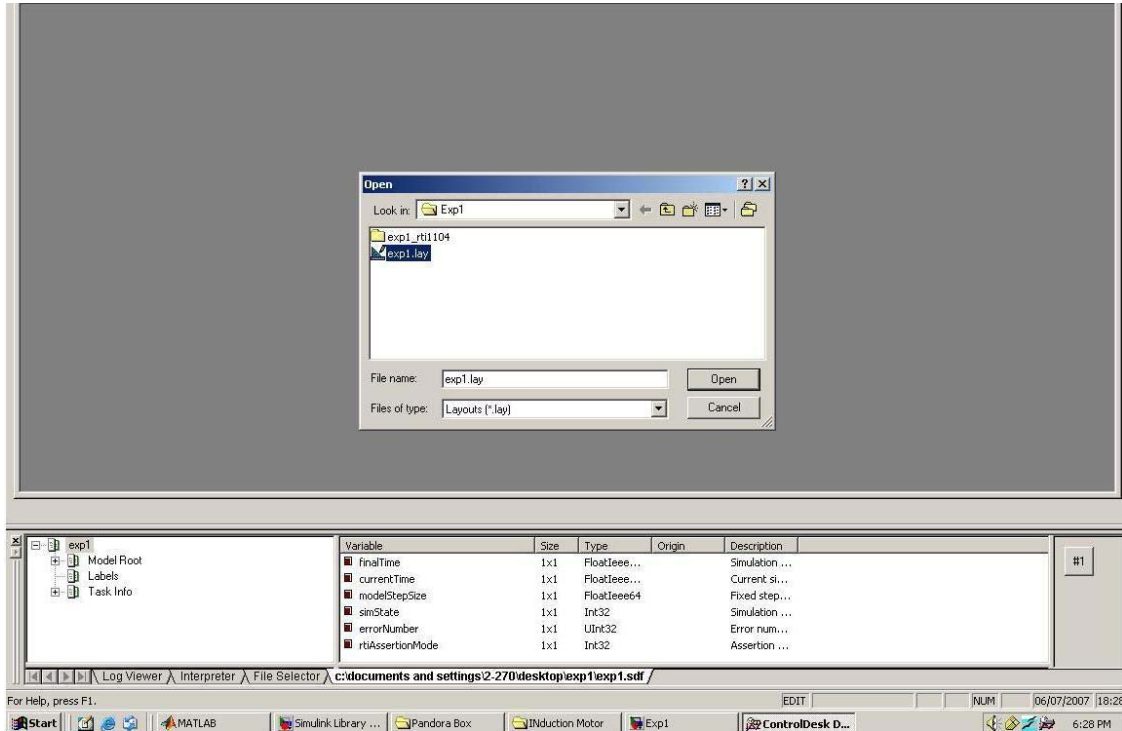
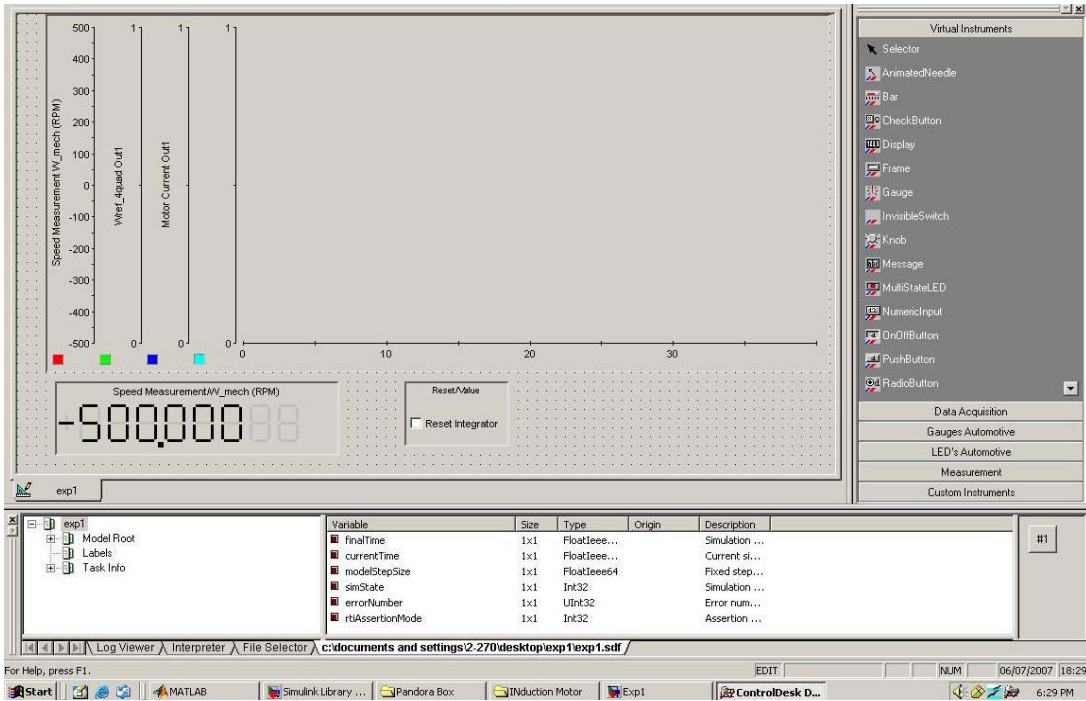
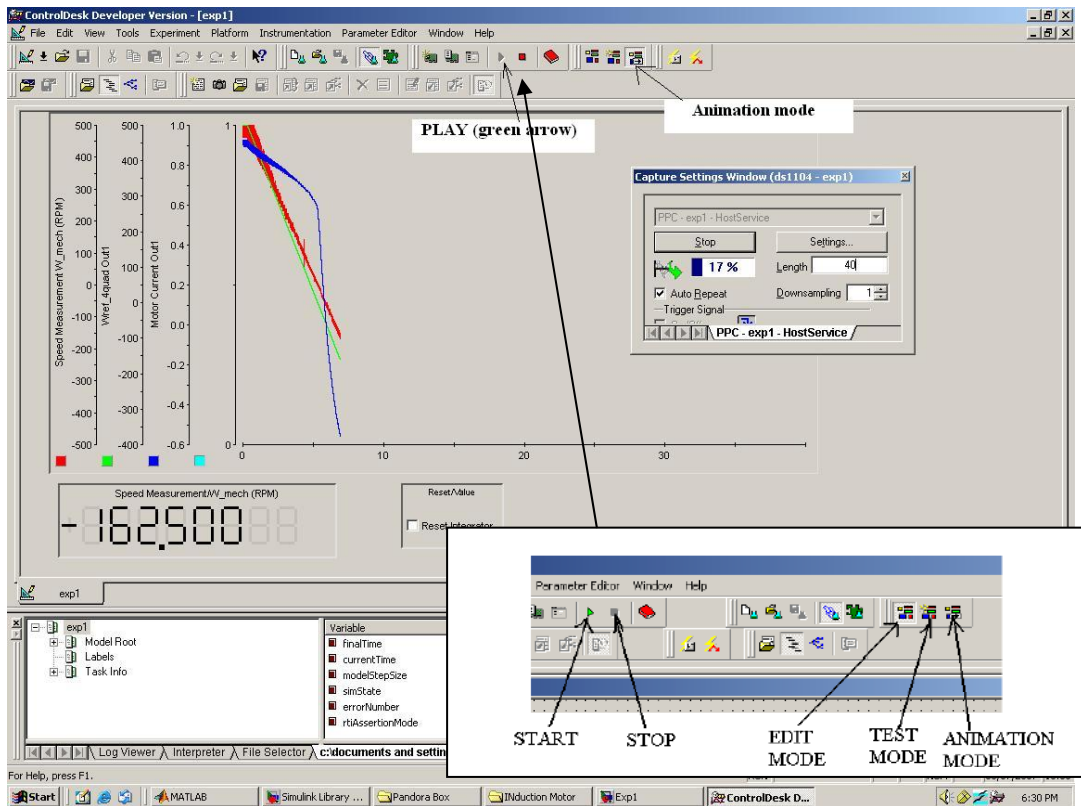
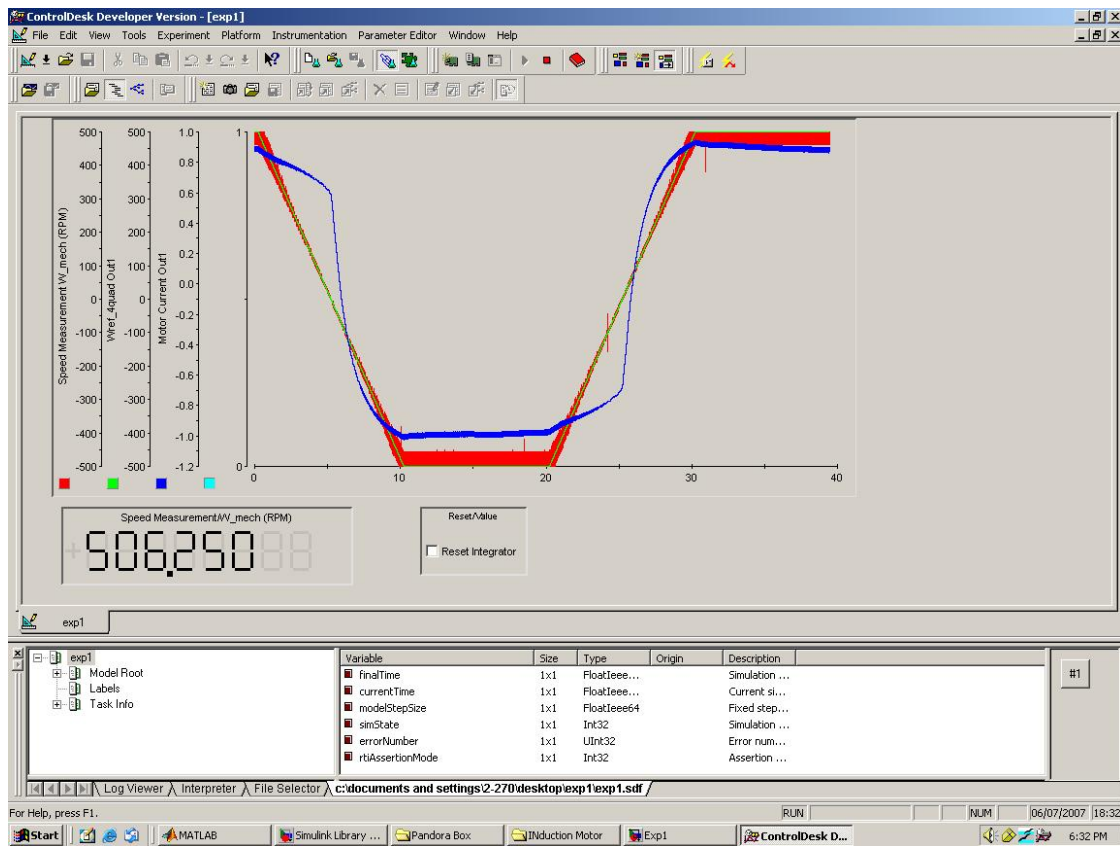

Figure 1.7: Control-desk panel, opening the layout
Figure 1.8: Control panel layout
Figure 1.9: Various control buttons, starting and stopping the system
Figure 1.10: Motor actual speed (red), reference speed (green) and phase current (blue)
- Check the folder **Exp1**; this should contain the file **Exp1.sdf** in addition to the other system files. Leave them as such for the proper operation of Control-desk. Open Control-desk by double clicking on the **dSPACE Controldesk** icon. The icon should be located on the desktop of the computer; the opened control-desk is shown in Fig 1.7 (ignore the lower panel window shown in Fig. 1.7 at this moment, and also the pop-up window showing Exp1.lay). Click **File->Open Variable File**. A pop-up window will appear, locate the **Exp1.sdf** file in the directory **Exp1** and click **Open**. Now you should be able to see the lower panel window shown in Fig 1.7. Click **File->Open**, the pop-up window will appear again asking for layout file this time. Locate the file **Exp1.lay** as shown in Fig 1.7 and click **Open**. Click **yes** if a pop-up box opens asking for data-connection. The layout thus opened should look as shown in Fig. 1.8. At this stage the control panel of the control-desk is ready to communicate or transfer data with DS1104 via CP1104. Click **Start (PLAY)** and switch to the **Animation mode**. The motor will start running. It will rotate in the positive direction for some time and in the negative direction for some time, i.e. the direction of rotation alternates. Right click on the graph and select **edit capture** setting, and set the capture setting as shown in Fig 1.9.
- You should be able to observe the speed of the motor on control panel (Fig. 1.9). The waveform for motor phase current, reference speed and actual speed is also shown. Press the button **Edit mode** and then press **STOP**. Take the waveform as shown in Fig 1.10. Study the explanations detailed next. The control-desk is able to access the following data with the help of **Exp1.sdf** file:
- The motor will receive the PWM voltage at its terminals and hence start rotating. It will speed up; the current in the winding will increase. Since the speed and the current of the motor thus increased are fed back to DS1104 in real-time, the DS1104 will take the next action as per **control-system**. DS1104 will change the pattern of digital signal to change the speed of the motor such that the motor will achieve the speed as commanded in the **control-system** (block **Wref_4quad**). Note that, the speed command in **control-system** is alternating; hence the motor alternates its direction of rotation. The instantaneous motor speed and current is shown in Fig 1.10.